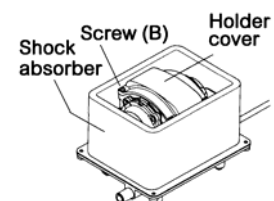

Fig 1-D
- Insert the magnet support jig in four corners between the magnet and the core (Ref: Fig 1-E,F).